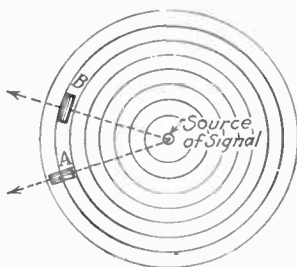

FIG. 56.—Sketch showing loop in two positions relative to oncoming radio wave.
*Ans.* If the loop is regarded as an inductance coil cut by a varying magnetic field of a radio wave, it is seen that an e.m.f. is thereby set up in the loop. This is the situation when the wave is traveling in the plane of the loop (see position  $A$ , Fig. 56).
angles to the direction in which the wave is traveling, no lines of force cut the coil and no e.m.f. is induced in the coil (see position *B*, Fig. 56).